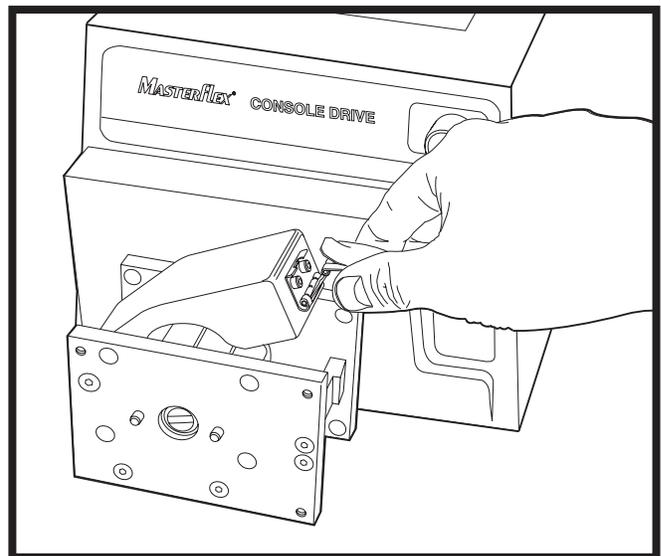

Figure 5, Release latch and open occlusion bed.
1. Release latch and open occlusion bed (Figure 5).